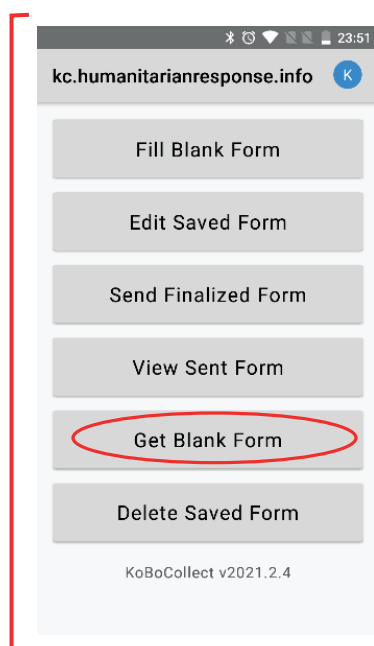

Figure 34: KoBoCollect - Get Blank Form
1. Click on the “Return” button on the device to head back to the Home Page. Once on Home Page (Figure 34), the following tabs will be visible: